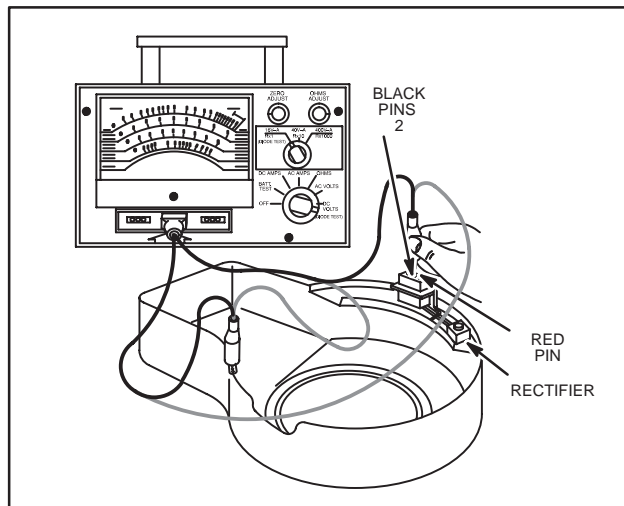

Fig. 784 – TESTING RECTIFIER
- Attach RED test lead clip to a clean, unpainted area on blower housing. Leave RED test clip attached for remainder of test, Fig. 784.